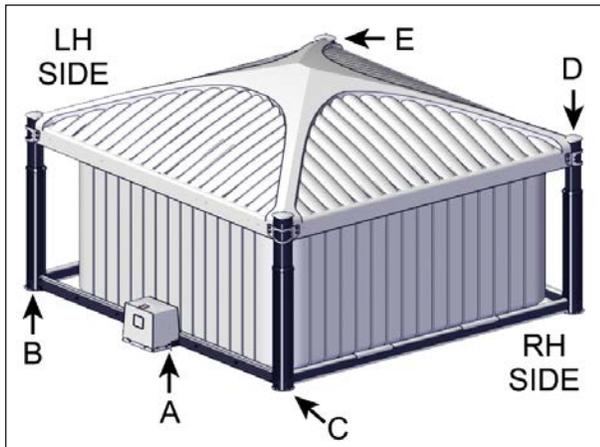

FIGURE 15: OPERATOR AND JACKS INSTALLATION
1. Install the motor frame in place, usually to the opposite side of the spa entrance, see Figure 15. The standard model will need the motor frame to be on the short side of the cover, whereas the long-side model will